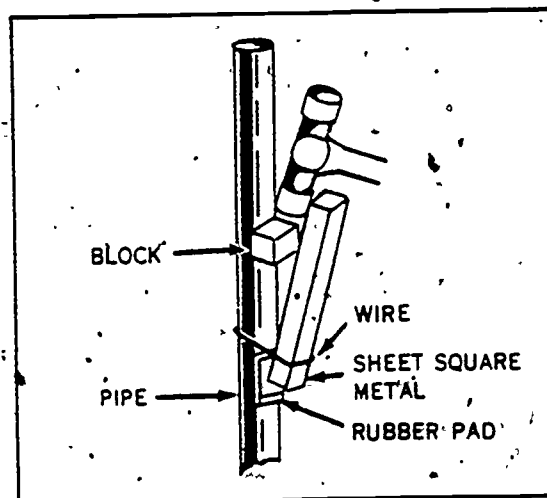

Figure 6-5. Repairing a hole in a pipe by a lever arrangement.
g. Lever arrangement. Another improvised method of repairing a hole in a pipe is by a lever arrangement, as illustrated in figure 6-5. Pressure is applied over the rubber pad to stop the leak.